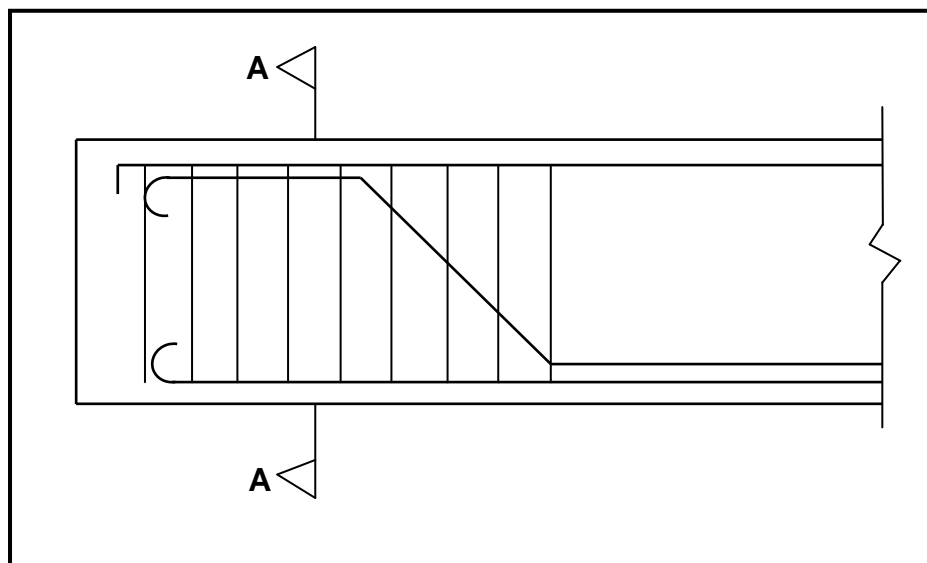

FIGURE 6.6
6.6 FIGURE 6.6 below shows part of a rectangular concrete beam that is reinforced with two main bars, two anchor bars and one shear bar.